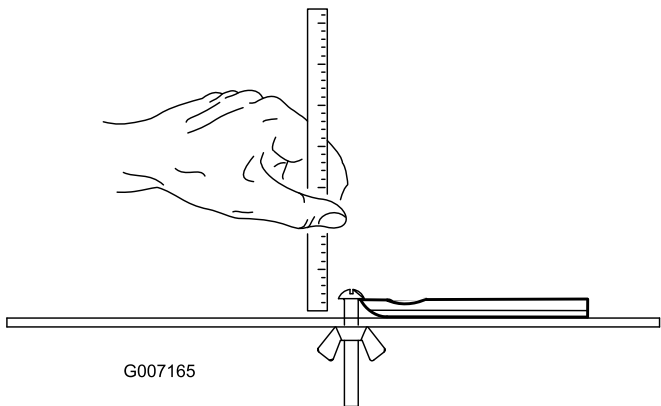

Figure 23
**Note:** All bedknife service limit measurements reference the bottom of the bedknife (Figure 23)